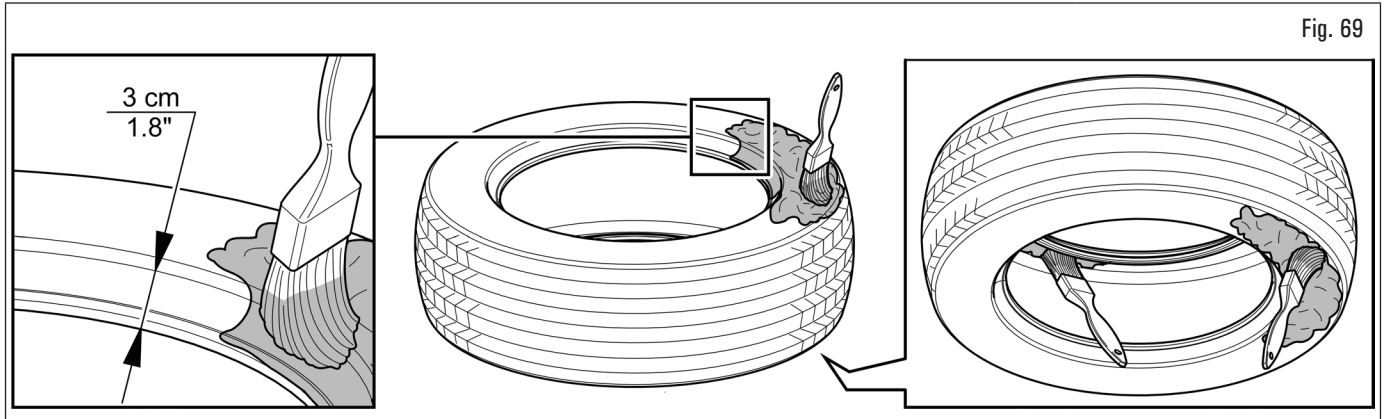

Fig. 69
1. abundantly grease the tyre, which must be mounted, on both beads and on the upper side, both on the outside and, for at least 3 cm (1.18") from the bead, on the inside (Fig. 69);